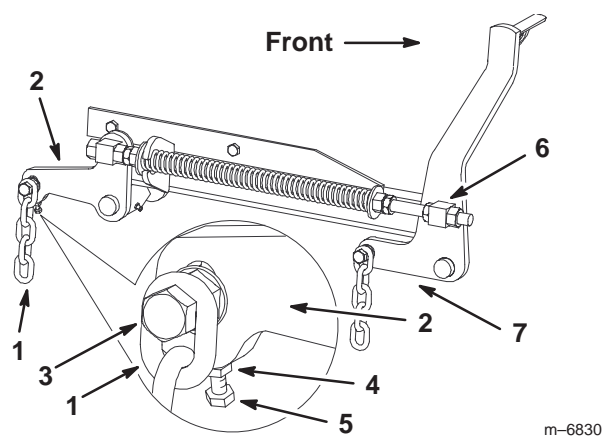

Figure 67
- If the measurements at positions **B** or **C** are not correct, loosen the bolt attaching the rear chain to the rear support arm (Fig. 67).